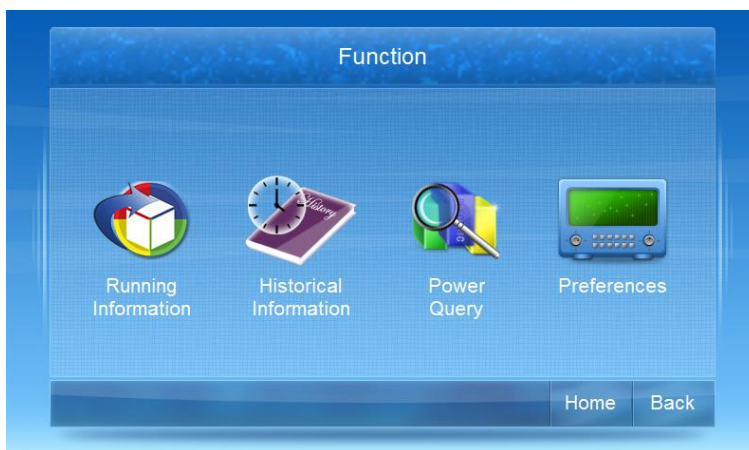

Figure4-8 Function page
- Step 2 Click  icon to enter **Function** page, as shown in Figure4-8.